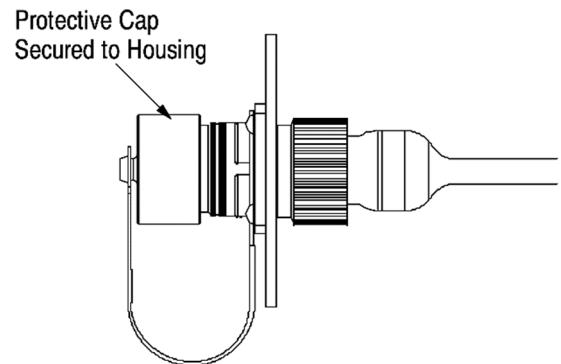

Figure 16
2. Install the connector through the front or back of the panel. See Figure 16, Detail A.
3. Position the fastener loop of the tether of the protective cap over one of the small holes in the panel. Then using the threaded fasteners, secure the connector and the fastener loop to the panel. See Figure 16, Detail A. Tighten the threaded fasteners to manufacturer's recommended torque.
4. Thread the protective cap onto the housing. Hand-tighten the protective cap. See Figure 16, Detail B.